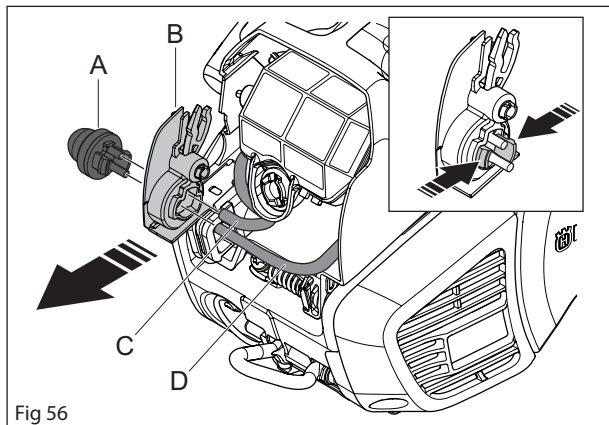

Fig 56
Unsnap the suction hose (D) and return hose (C) from the fuel pump (A). See Figure 56.
Pull out the fuel pump attachment (B). See Figure 56.
Press in the hooks to unsnap the fuel pump from the fuel pump attachment. See Figure 56.
Refit the fuel pump attachment. See Figure 56. Attach the suction hose (D) and return hose (C) to the fuel pump.